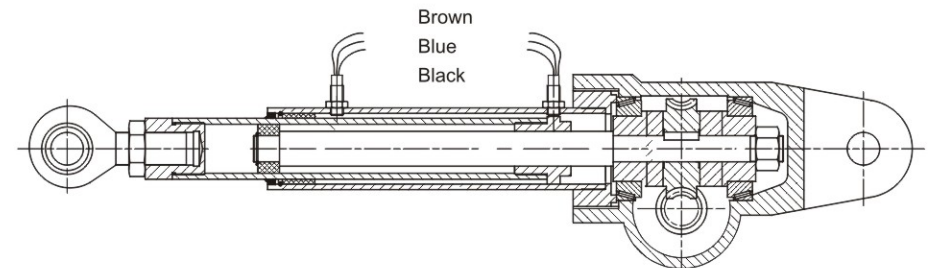

Fig.1.10 Actuator with proximity stroke limit device
The inductive proximity stroke limit device FCP, fixed directly on the outer tuber in the required position, it is not adjustable. The control circuit of the FCP indicated by manufacturers. See fig 1.10
D. Actuator with proximity stroke limit device FCP (See Fig.1.10), as same as above.